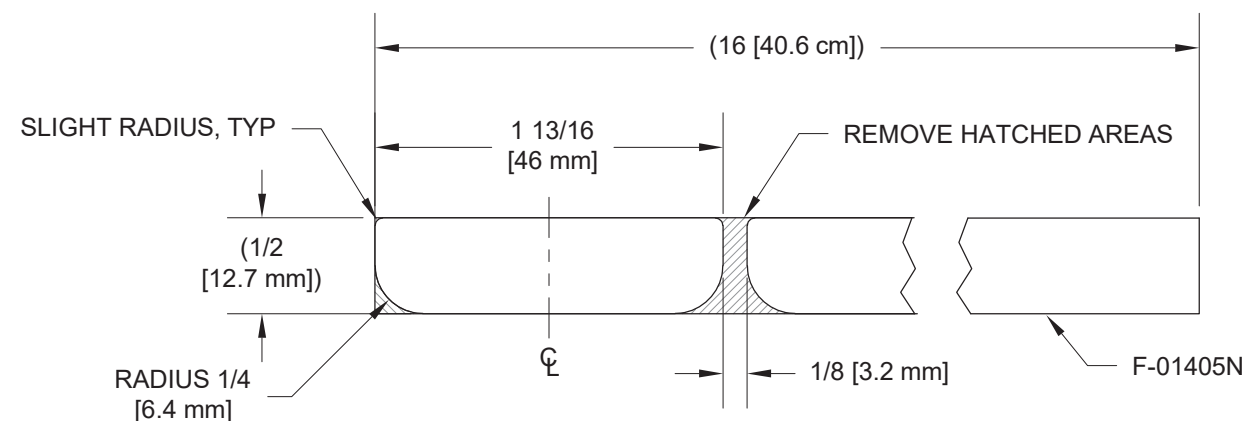

FIGURE 1: F-01405N SEAT BACK ADJUSTMENT GUIDES
Step 1: Cleco the #40 hole in the F-01457-L & -R Gussets to the Upper Longeron Assemblies. Rotate the gussets to overlap the outboard edge over the top edge of the side skins as shown in Figure 1.